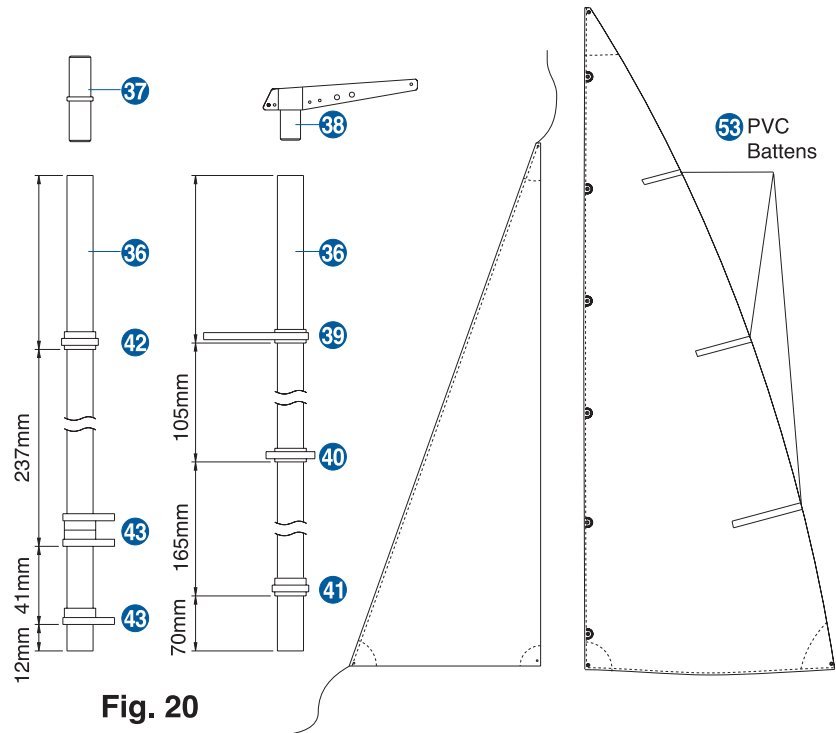

Fig. 20
3. Place a mark on the mast where each fitting is to be placed. Refer to Fig. 20.
4. Place the mast fittings at locations marked as shown in Fig. 20. Do not glue!
6. Cut the thin PVC Tape **53** using the main sail as your guide, for use as battens. Refer to sail drawing in Fig. 20 for placement.